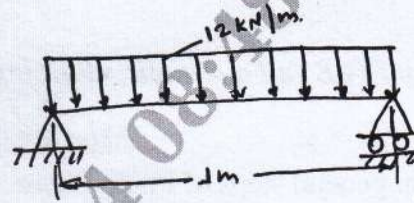

Fig Q5(b)
b. Fig Q5(b) shows a simply supported beam subjected to U.D.L to obtain max. deflection. Take $E = 200\text{GPa}$, $I = 2 \times 10^6\text{mm}^4$.